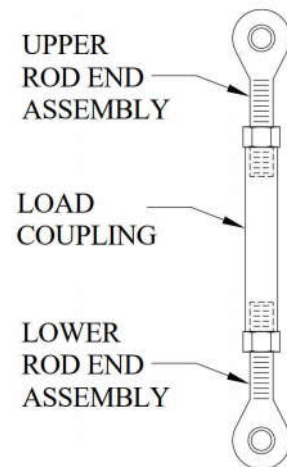
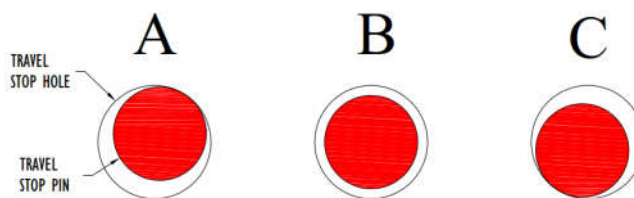

Figure 10: Sway Strut Assembly
Figure 11: Travel Stop Disengagement Position
5. The travel stop pin (painted red) should now be removed. Referring to figure 11 below. If the pin is as in position "A", rotate the sway strut load coupling such that to separate the rod end assemblies from each other (see figure 10) to get to position "B". If the pin is as in position "C", rotate the sway strut load coupling such that to draw in the rod end assemblies together to get to position "B". Once disengaged (position "B"), the travel stop pin may be removed and stored in the travel stop holder on the constant's frame.